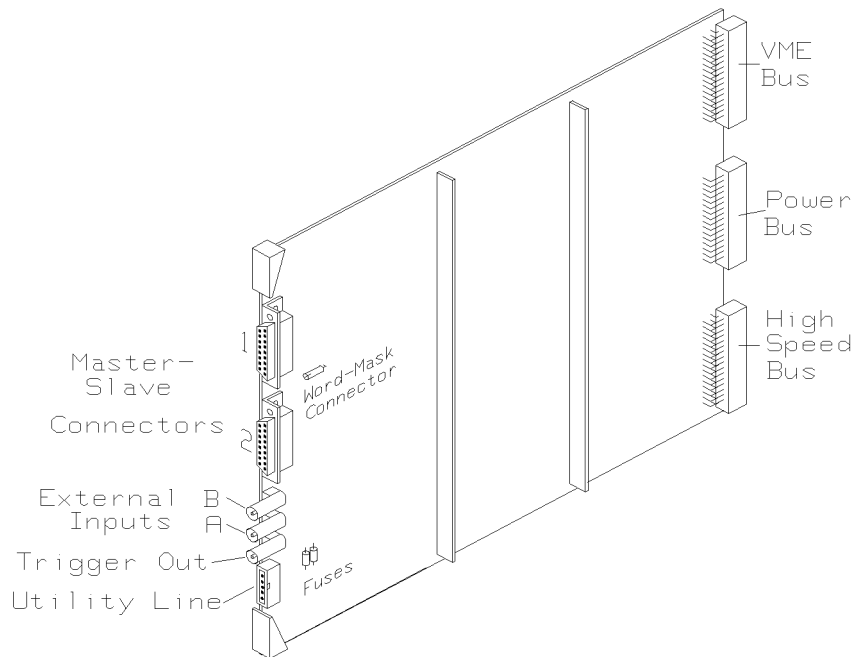

Figure 10-7. Sequencer Board
5. The D-type connectors on a **Standardframe Sequencer** are numbered 1 to 2 in Figure 10-7, and are connected to **Connector 1** on the other (slave) sequencers, as follows: